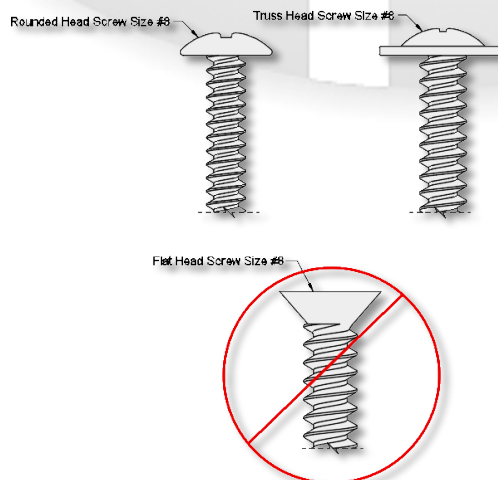

Figure 4: Approved Screw Heads – Strap Anchors, Fender Washers, & Nail Flange
- a) A #8 pan head screw as shown below in *figure 4* must be used.